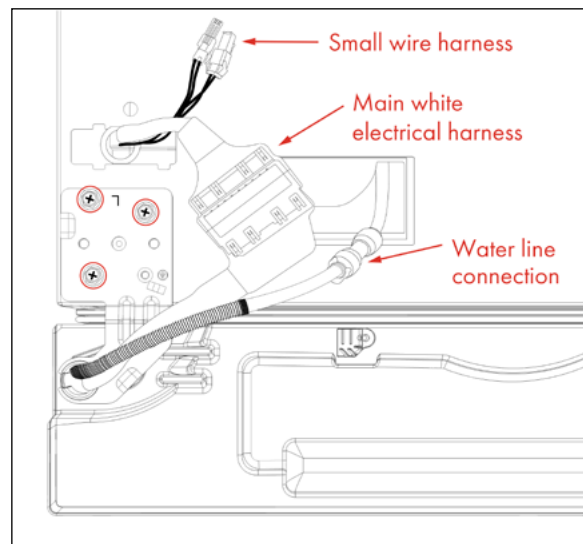

Figure 3
3. On the left door, disconnect both small harnesses. Next, disconnect the water line by removing the small blue clips and pushing the gray rubber tab to pull the line out from both sides. Lastly, disengage the large white electrical harness by removing the plastic cover, then pushing the clip in the middle of the harness to pull apart (see Figure 3).
4. With a second person holding the door in place, remove the 3 screws securing the left door to the black hinge as circled in Figure 3. Set the screws aside.